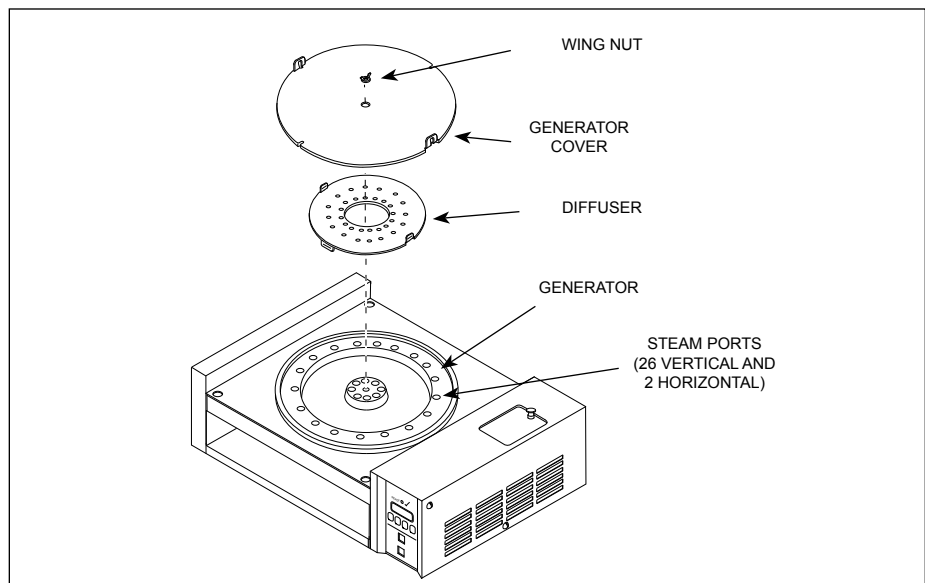

Figure 11. Monthly Cleaning
3. Remove the Wing Nut, Generator Cover, and Diffuser (Figure 11). Wash these items in hot, soapy water, rinse and WIPE DRY.
5. Take a wire brush and clean out any buildup from the 28 Steam Ports (26 vertical and 2 horizontal) of the Generator (Figure 11). Remove the loose buildup, wipe the Generator with a clean, damp cloth, and reassemble the unit.